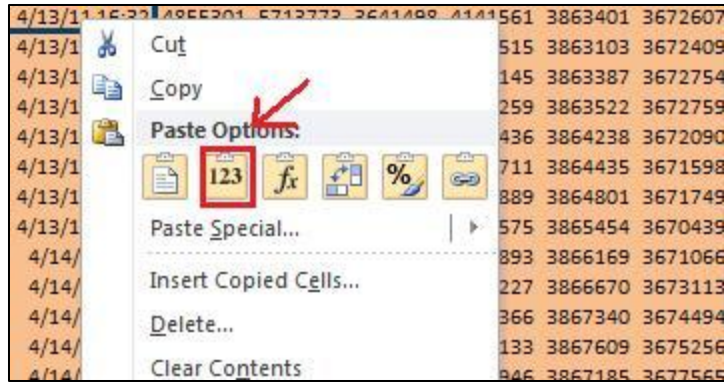

Figure 41: Correctly Pasting Values into the Template
3. **Copy** all of the output data from the **selected dynamic event** excel document. This data starts at the 85th row of columns B through columns M. **Paste** this data into the section titled "Paste EchoPro Values Below", labeled by the number 2. Pasting, as shown in Figure 41, is accomplished by right clicking and selecting paste – values.